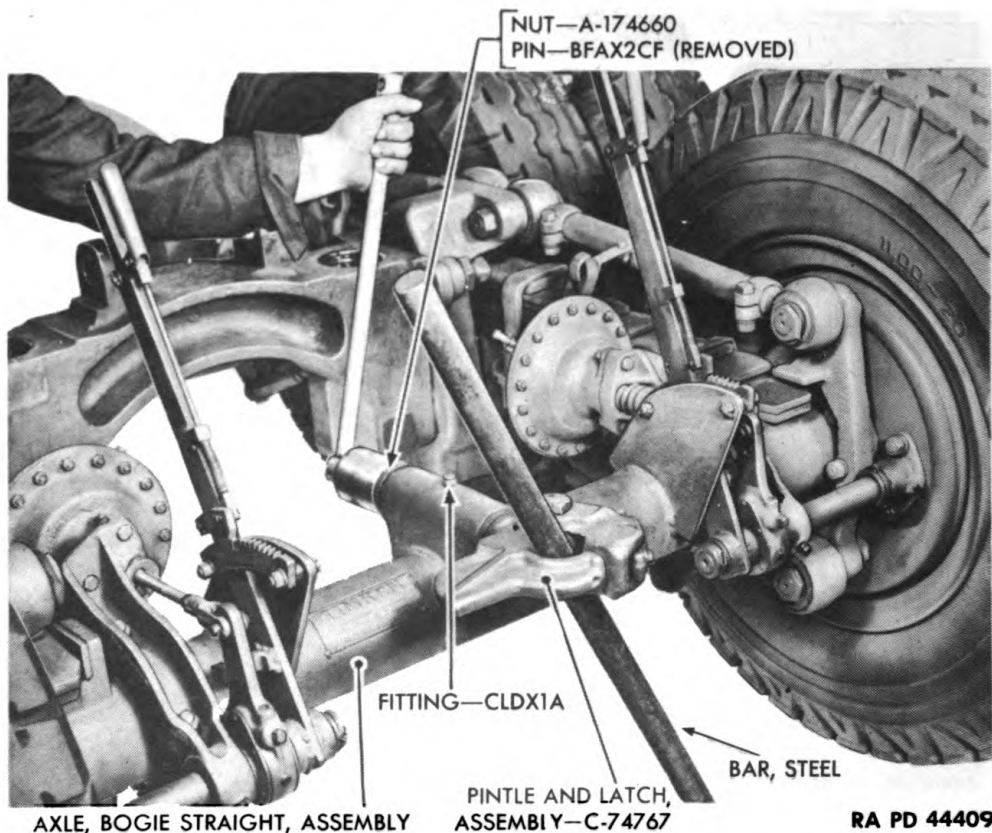
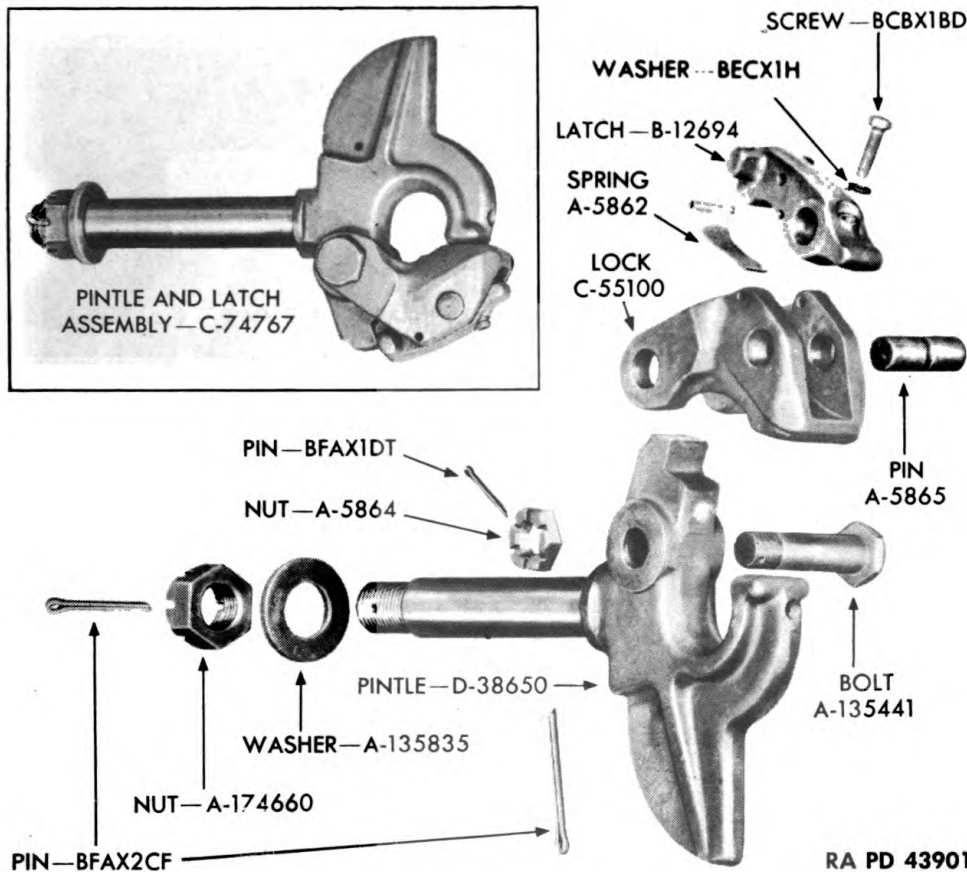

Figure 248—Removing Pintle and Latch Assembly
Figure 249—Pintle and Latch
- (1) Remove cotter pin BFAX2CF from nut A174660 and pintle D38650 (figs. 248 and 249).
- (2) Cut wire, and remove cotter pin used to hold pintle to pintle latch when materiel is towed by prime mover.
- (3) Place steel bar through pintle (fig. 248) and unscrew and remove nut A174660 from end of pintle D38650.
- (4) Tap pintle and latch assembly C74767 from bogie straight axle.
b. Disassemble Pintle and Latch Assembly (fig. 249).
- (1) Place pintle and latch assembly in a vise. Remove screw BCBX1BD and washer BECX1H from lock C55100, latch B12694, and pin A5865.
- (2) Push pintle latch pin A5865 out, and remove pintle latch.
- (3) Remove cotter pin BFAX1DT from nut A5864 and bolt